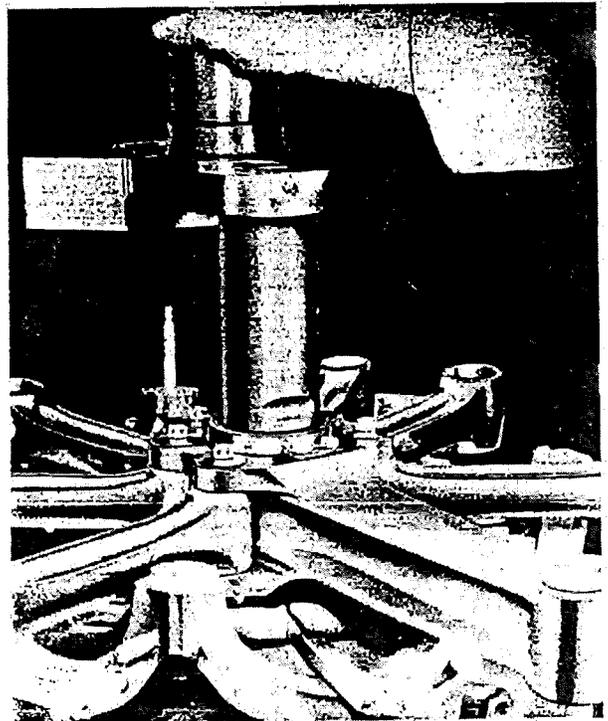

Figure 34 - Installing Front Half Crankshaft
c. Spread slot in rear crankshaft with Wedge (Tool No. T-18000) just enough to permit crankpin to enter rear half of crankshaft freely. Refer to Figure 34.